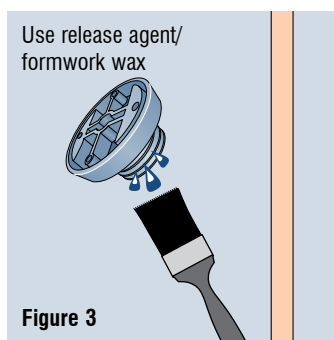

Figure 3
- It is recommended that you coat the nail disc with release agent or formwork wax before use (fig. 3). This greatly facilitates its release after concreting.